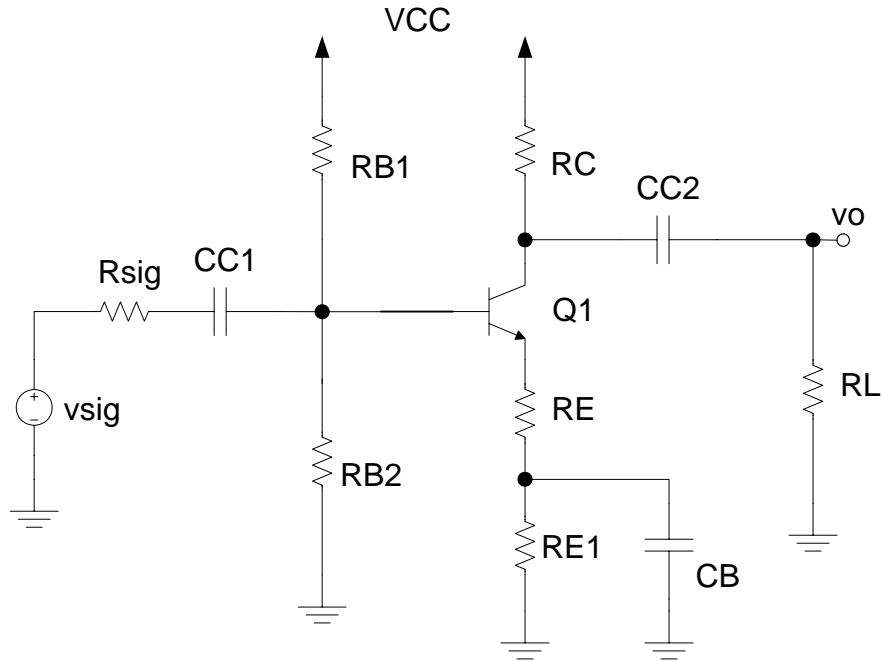

Figure 1: Schematic for a Common-Emitter Amplifier with emitter resistance
Design the amplifier shown in Figure 1 to meet the following specifications:
2. Construct the circuit in Figure 1 using the resistor values found in the preliminary without the capacitors and function generator.